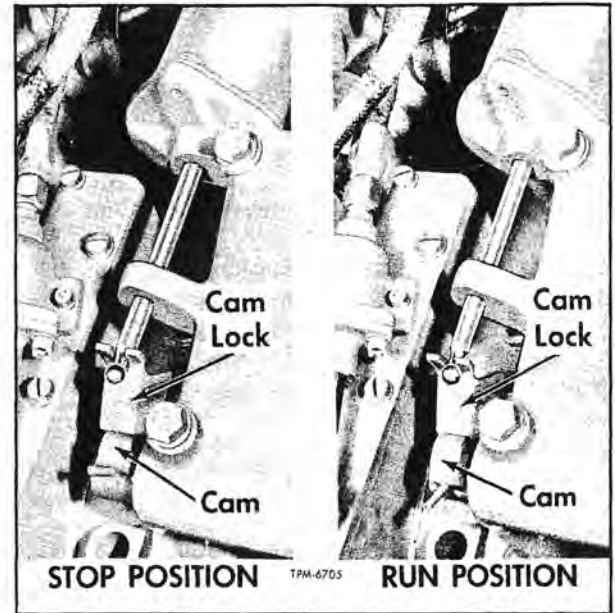

Figure 4—Emergency Stop Mechanism at Blower Housing
Emergency stop solenoid assembly is installed at engine blower housing (fig. 4) and releases a choke valve to restrict air intake by engine.
3. Insert plunger rod through guide on blower housing, and install two mounting bolts. Engage cam lock with plunger rod and bolt lock to blower housing. Attach wire to terminal (1). Solenoid and mechanism is installed as illustrated in figure 4.
NOTE: Cam (fig. 4) must be set in "run position" before engine can be started.